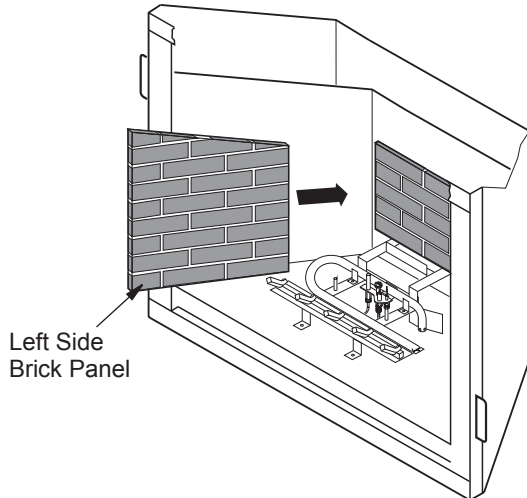

Figure 43 - Installing Side Brick Panels
6. Install left side brick panel by sliding it between the grate and the side of the firebox (see Figure 43, page 23).